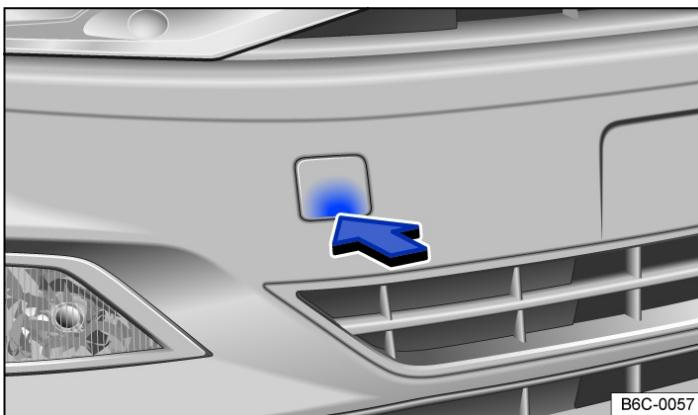

Fig. 1 In the front bumper on the right: removing the cover.
- Press at the bottom of the cover (arrow) to release the cover → Fig. 1.